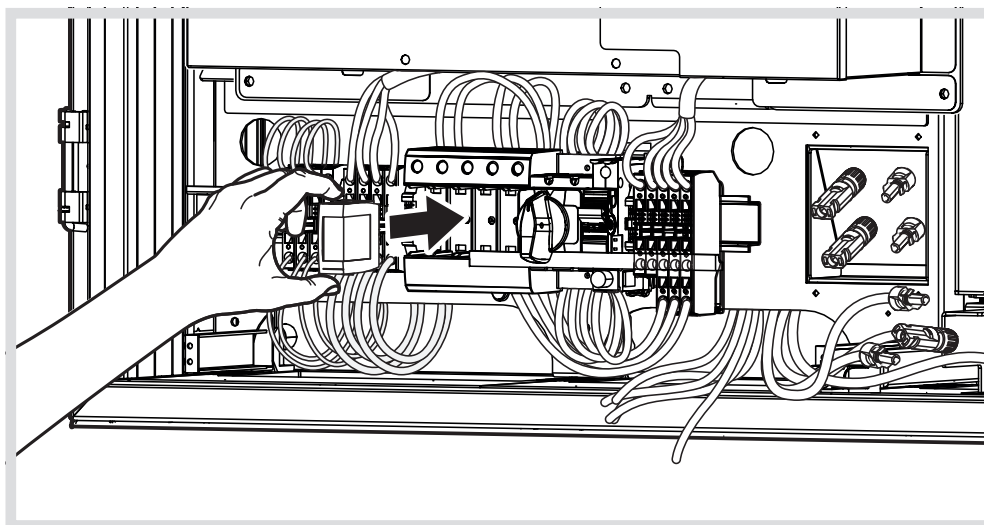

Figure 24: DEHNGuard PV500 installation
- Push the DEHNGuard PV500 supplied into the central overvoltage module mounting device until it clicks into place (Figure 24).